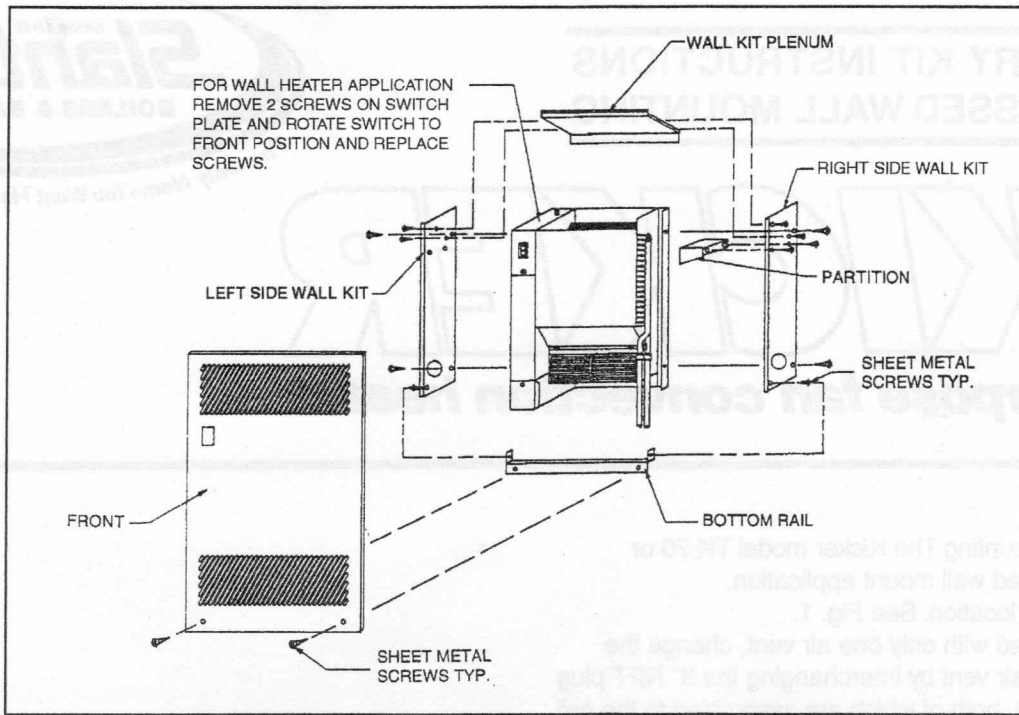

Figure 3. Frame assembly
3. Attach both side panels to the base of The Kicker with (4) #8 x $\frac{1}{4}$ " screws provided. See Fig. 3.
4. Attach bottom rail, plenum and partition to each side with (8) #8 x $\frac{1}{4}$ " sheet metal screws provided. See Fig. 3.
7. Fasten front panel in place with (2) 8 x $\frac{1}{2}$ " sheet metal screws provided. See Fig. 3.